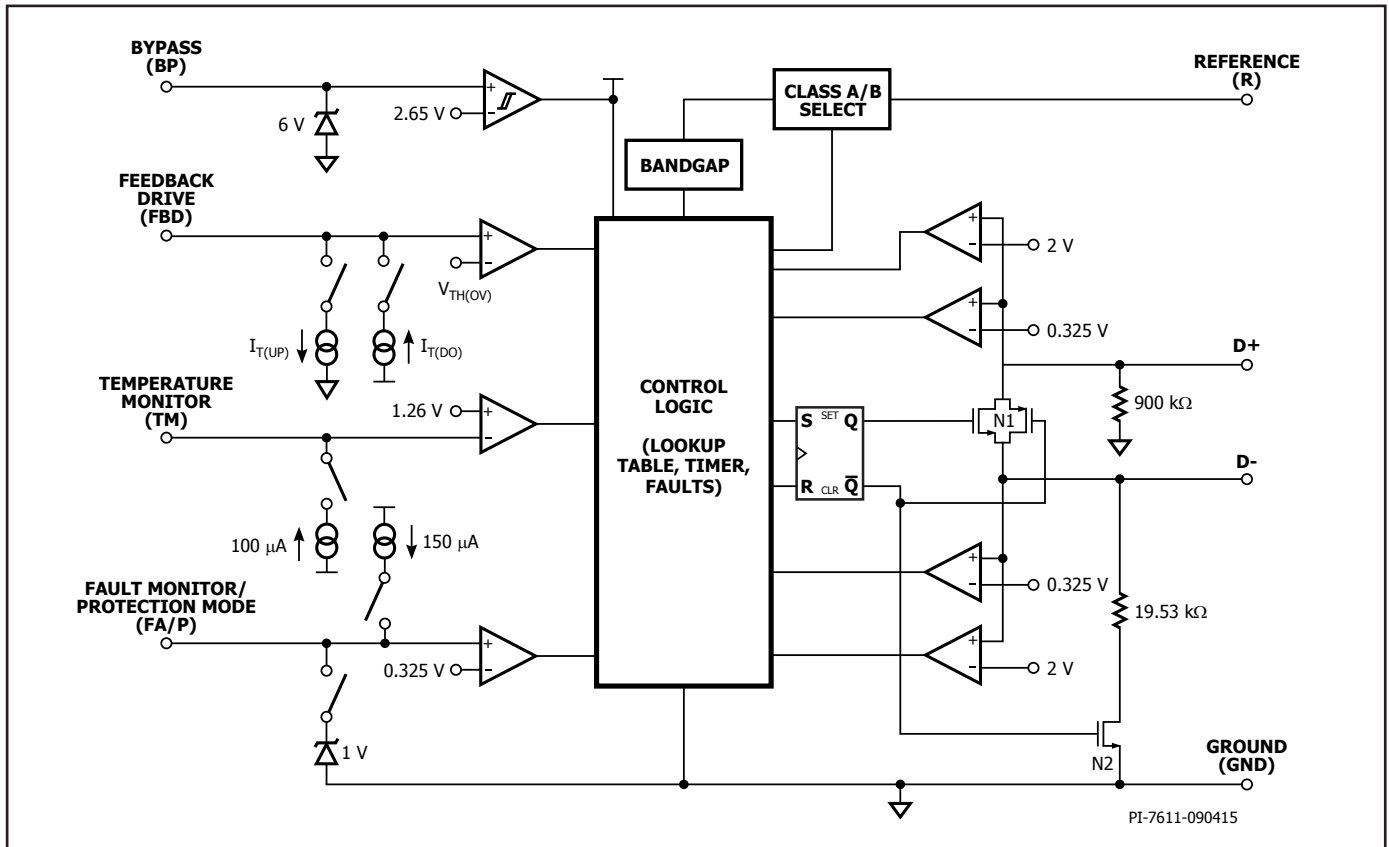

Figure 3. Functional Block Diagram.
At power-up CHY103 turns on switch N1 (see Figure 3) short-circuiting USB data lines D+ and D- for the initial handshake between AC-DC adapter (DCP) and powered device (PD) as described in the USB Battery Charging specification revision 1.2. After the USB BC 1.2 handshake is completed, CHY103 will turn off switch N1 if it detects a Quick Charge 3.0 or Quick Charge 2.0 compliant PD. At this point the Quick Charge 2.0 handshake followed by the Quick Charge 3.0 handshake can take place as described in the Quick Charge 2.0 and Quick Charge 3.0 protocol specification. Upon completion of the Quick Charge 2.0 and Quick Charge 3.0 handshakes, CHY103 will turn on switch N2 (see Figure 3) connecting a 19.53 k Ω pull-down resistor to USB data line D-.